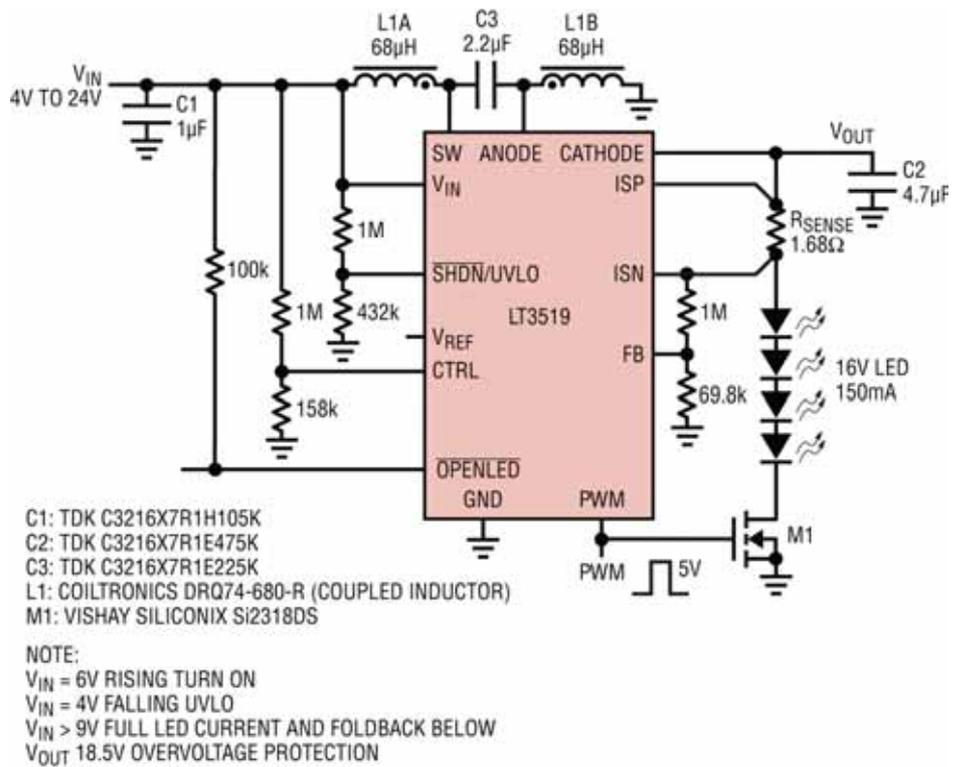

Figure 3: A SEPIC LED driver with short-circuit protection
When the LED string voltage is within the input rail voltage range, a SEPIC topology is called for. The SEPIC produces a high PWM dimming ratio and also gives short-circuit protection. The SEPIC in Figure 3 drives 16V LEDs at 150mA from a 4V to 24V input range. Since the anode of the integrated catch diode (ANODE) is made available at a pin independent of the NPN power switch emitter (SW), the coupling capacitor is easily inserted between the two. The maximum voltage that the SW pin sees is a little above